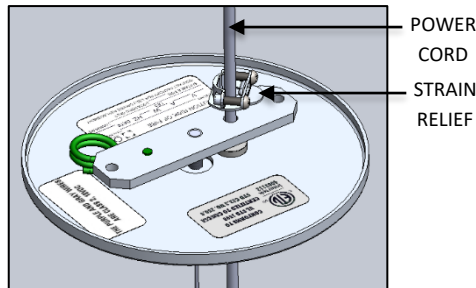

FIG. 31 – STRAIN RELIEF INSTALLATION
9. Then first feed the CORD through the holes which is available in the MOUNTING BRACKET ASSEMBLY and then secured it to the desired length by pass it through the STRAIN RELIEF as shown below in FIG. 31 & 32.